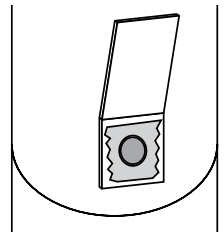

Figure 29
5. While pushing and holding the bellows down, press the sticky side of the hole in the wind speed flap to the white plastic plug located on the side of BT2 (Figure 29). The tape should hold the flap in place and the bellows should remain depressed.